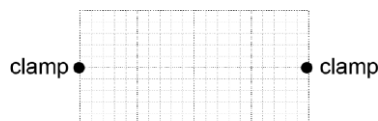

Fig. 5.3
1. Sketch this pattern on Fig. 5.3 and state the frequency